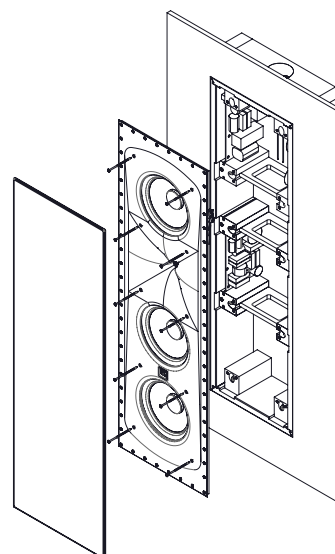

Figure 19
4. Attach the baffle to the back box with the ten supplied screws (Figure 19). Start with tightening the center mounting screws.